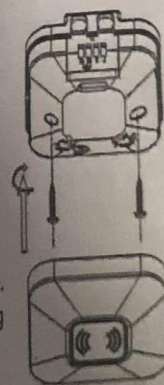
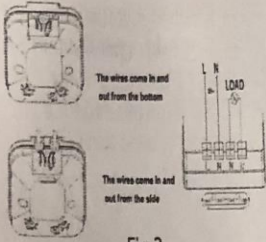

Fig 1
Fig 2
- (1) Suitably qualified and registered electricians must carry out all electrical installations.
- (2) Always isolate the main power prior to installation.
- (3) Remove the cover by checking the notch on the LDR side, as shown in Fig. 1.
- (4) Use the base to mark the drill holes on the mounting surface.
- (5) Drill holes and insert the wall plugs if required.
- (6) Feed power cable and load cable through base holes and securely affix the base.
- (7) Connect the power wire and the load wire to the connection terminals according to the electrical connection in Fig. 2 and do not exceed the max rated load.